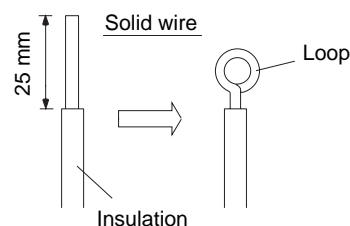

Fig. 27
- (1) Cut the wire end with a cutting pliers, then strip the insulation to expose the solid wire about 25 mm. (Fig. 27)
- (2) Using a screwdriver, remove the terminal screw(s) on the terminal plate.
- (3) Using the pliers, bend the solid wire to form a loop suitable for the terminal screw.
- (4) Shape the loop wire properly, place it on the terminal plate and fix it securely with the removed terminal screw using a screwdriver.